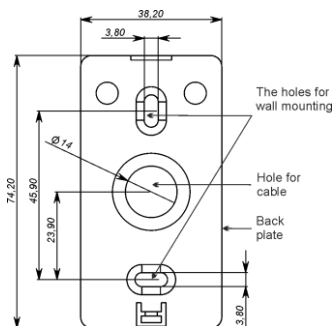

Figure 2
- Mount the back plate of reader on the wall using the fixtures provided (see fig. 2).